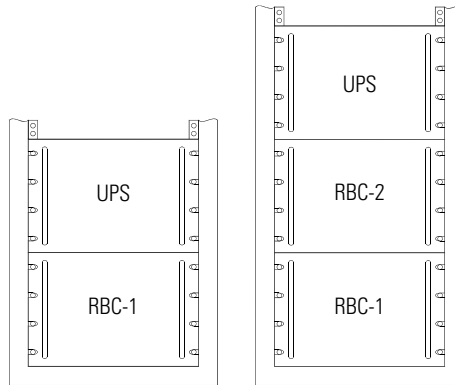

Figure 5. RBC-1 and RBC-2 Rack Configuration
1. Position the battery cabinet in the rack according to your configuration (see Figure 5):